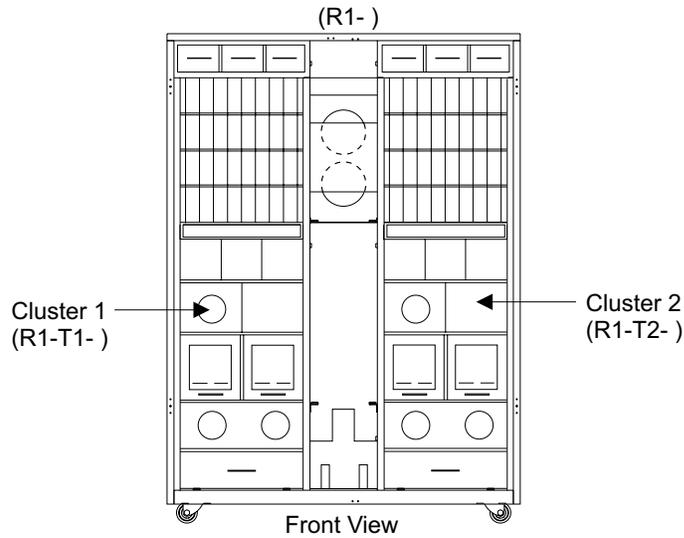

Figure 148. 2105 Model F10/F20 Cluster Bay Locations (S008091m)
2. Locate the memory module connectors and determine which module you are replacing, see Figure 148 on page 142: